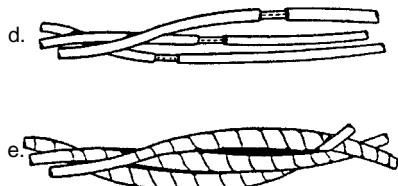

**Figure 1A: Cable Splicing: Solid Wire, Stranded Wire**
Prepare the cable and make the mechanical connections (Figure 1A) and splices as follows:
- 5A. BUTT CONNECTORS (Figure 1A): Insert wires into connector until insulation butts up against connector. Crimp connector to wires with a pair of crimping pliers. Pull on cable to make sure the connection is solid and tight.
## 5B. SOLDERED CONNECTIONS (Figure 1A):